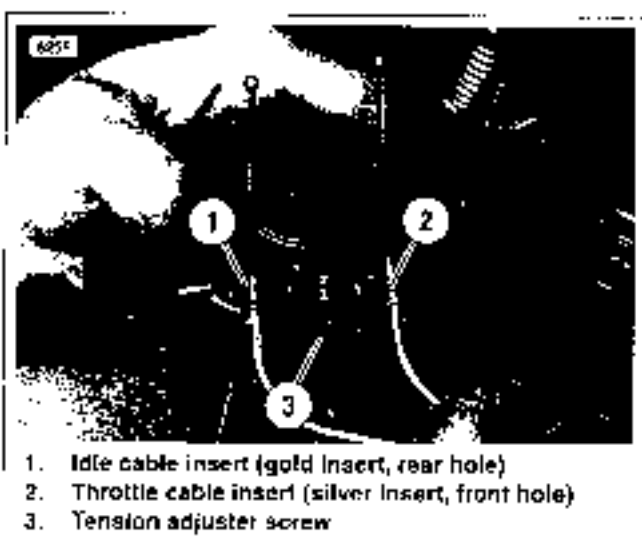

Figure 8-74. Right Lower Switch Housing
2. See Figure 8-74. Push the throttle and idle control cables into the lower switch housing until they snap in place. Note the different diameter inserts crimped into the end of the throttle and idle cable housings.
- a. Push the silver insert (2) of throttle cable housing into the hole in front of tension adjuster screw (3).
- b. Push the gold insert (1) of idle cable housing into the hole at the rear of the tension adjuster screw (3).